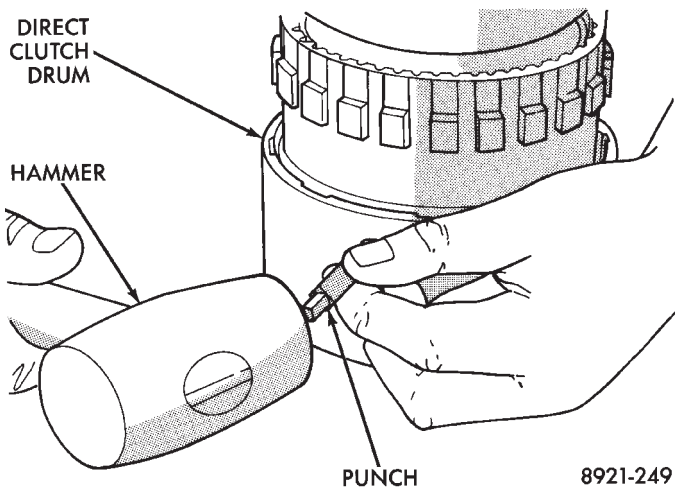

Fig. 29 Marking Direct Clutch Drum And Annulus Gear For Assembly Alignment
(20) Mark position of annulus gear and direct clutch drum for assembly alignment reference (Fig. 29). Use small center punch or scribe to make alignment marks.